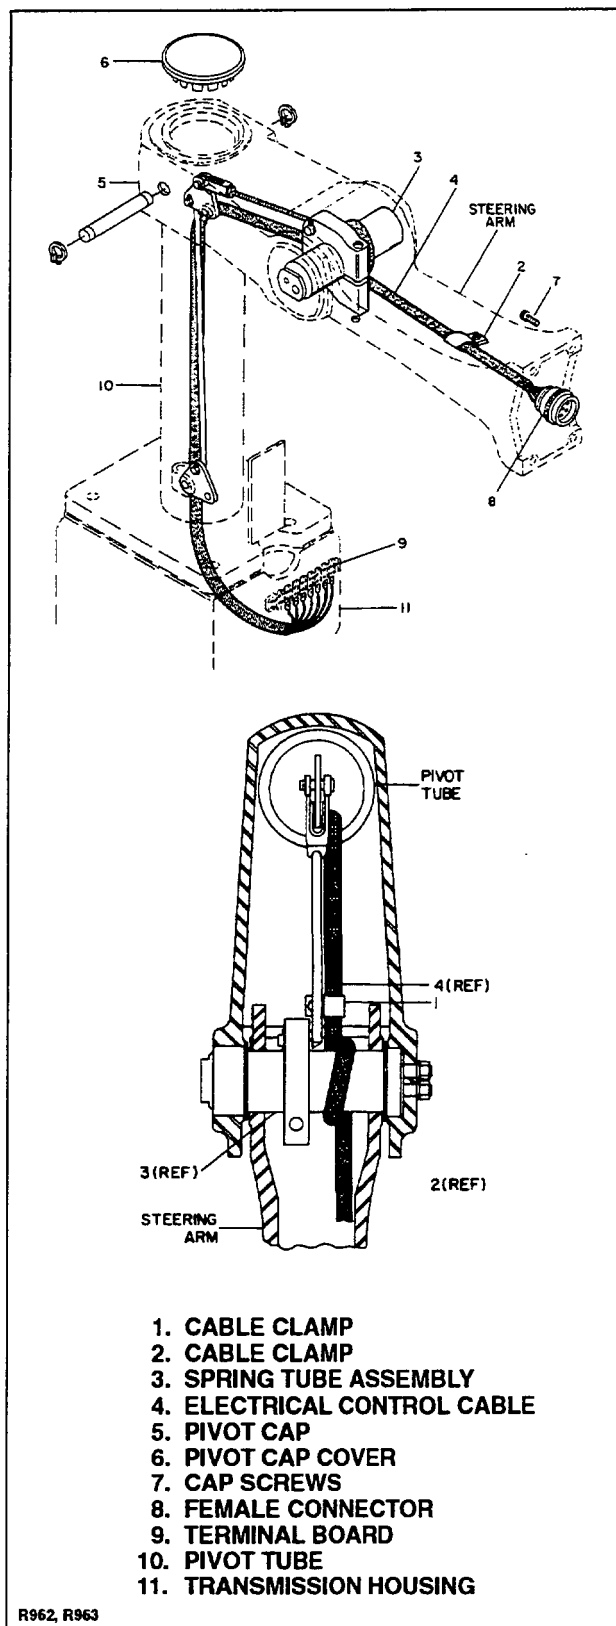

Figure 5-9. Electrical Control Cable Replacement
26. Reinstall steering arm onto pivot tube, being careful not to damage electrical control cable while routing it through the pivot tube. (See Figure 5-9).
2. Remove four screws (7, Figure 5-9) that secure control head to steering arm.
3. Disconnect connector (8), and set aside control head.
4. Use Amp Extraction Tool **part number 900750** to push out and disconnect wire pins from connector (8).
5. Remove cable clamps (1, 2) and loosen loop of cable that surrounds the spring tube assembly (3).
6. Remove pivot cap cover (6).